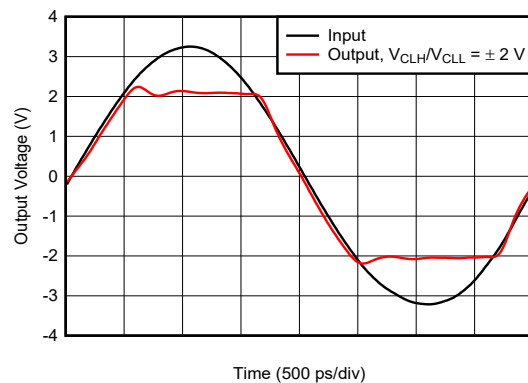

**Figure 8-3. External Input Clamp Circuit**
- Figure 8-3 shows how the external clamping diodes can be used in cases where the 100 mA current rating of D1 and D2 is insufficient. When using external clamping, disable the internal protection of the BUF802 by connecting CLH and CLL to  $V_{S+}$  and  $V_{S-}$ .
- As shown in Figure 8-3, the internal clamps can be disabled by connecting CLH and CLL to  $V_{S+}$  and  $V_{S-}$  respectively. When the clamps are disabled, the maximum output swing is limited by the output swing specification described in Section 6.5. The response time and accuracy of the output clamp is shown in Section 6.7.